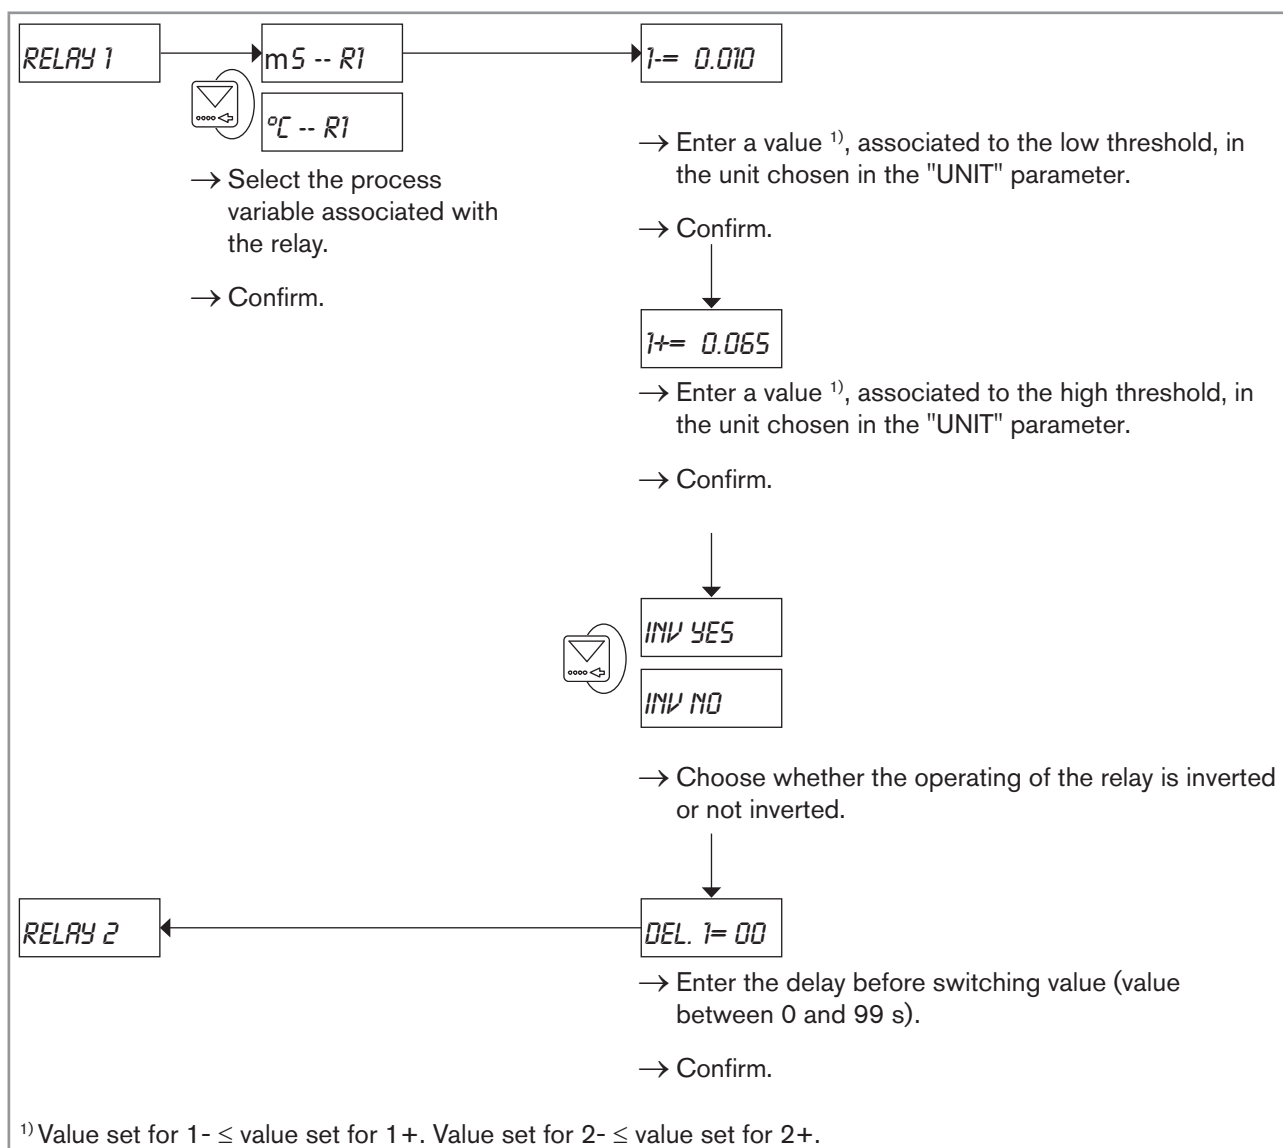

Figure 37 : Diagram for the setting of relay 1 (or relay 2) to switch a load depending on two thresholds
- makes it possible to switch a solenoid valve or a pump (depending on the set threshold values). In this case, the settings are similar to those made for relay 1: see Figure 37 above.